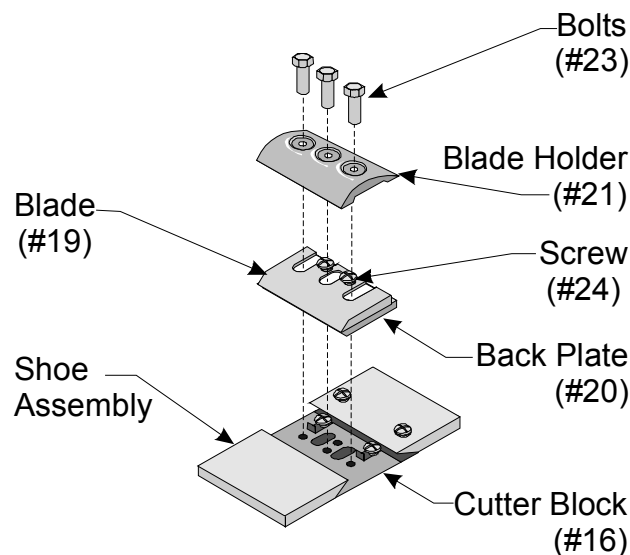

Figure 6 — Placing the Blade onto the Cutter Block
Step 5: Snap blade assembly back into the CUTTER BLOCK (#16) as shown in Figure 6.